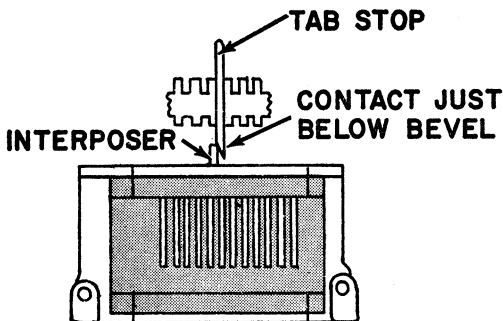

Figure 8. Tab Rack Height Adjustment
c. Adjust the tab rack up or down at each end so that a raised interposer will overlap a set tab stop by $.045''$ to $.060''$. Adjustment can be observed by moving the carriage to the right by hand until the beveled side of a set tab stop contacts a raised interposer. The point of contact should be just below where the bevel begins (Figure 8). Adjust both ends of the rack the same. The tab rack center support must be adjusted up or down so that contact at the center is the same as at the ends. The contact point **MUST** be below where the bevel starts to insure that the carriage will not lock up during carriage return if an interposer fails to restore.